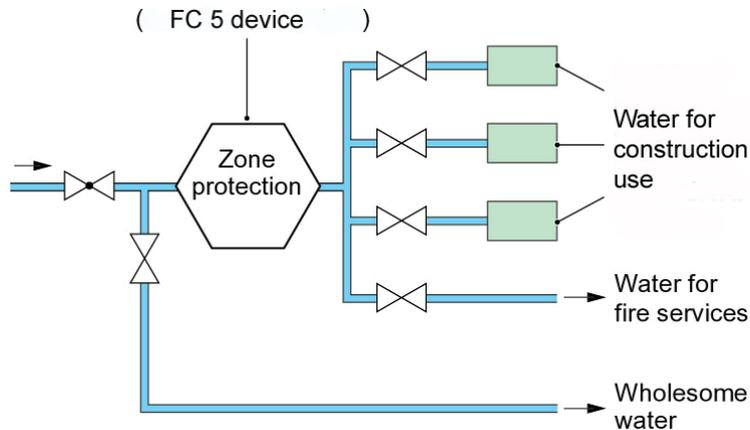

Figure 3: Zone backflow protection for construction water
- 2.1 Following on from 1.3 above, where backflow protection is required for the construction water, 'Zone protection' can be used as shown in Figure 3: